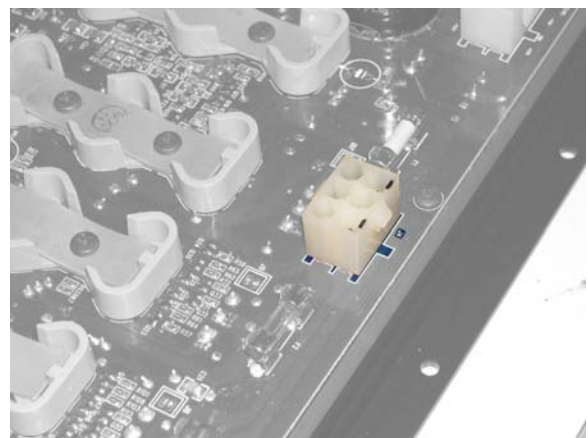
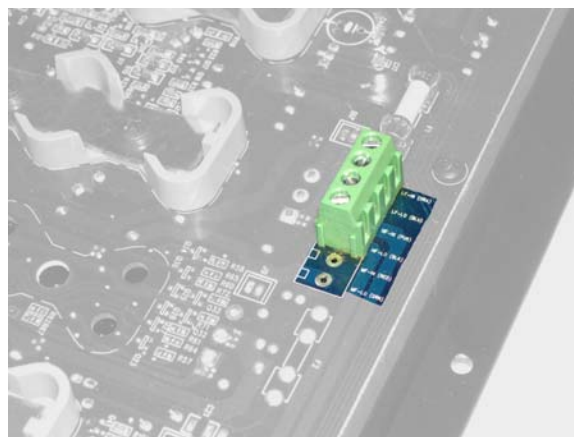

Figure 3. The loudspeaker wire connection on the HPR152F and HPR153F.
Figure 4. The screw terminal connection for the loudspeaker wires on the HPR122i. Those for the HPR152i, HPR153i, HPR151i, and HPR181i are similar.
5. Disconnect the loudspeaker wires from the module. The HPR152F, HPR153F, HPR151w, and HPR181w models use a detachable Molex connector (Figure 3), while the HPR122i, HPR152i, HPR153i, HPR151i, and HPR181i models use screw terminals (Figure 4). The module is now free of the enclosure, and you may set it down on your work surface.